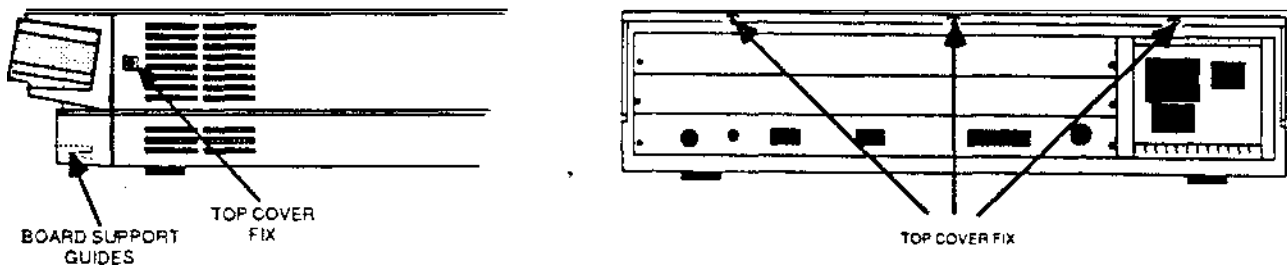

Figure 1
3. Remove the top cover as follows (see figure 1).